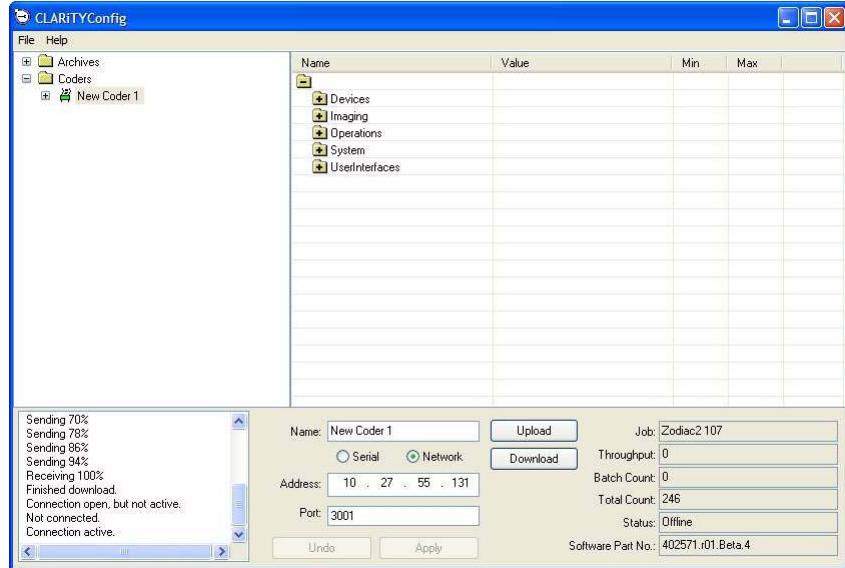

Figure 3-17: Printer Settings
- 10** Click Apply and the new settings are activated and the printer icon turns green (Figure 3-17).